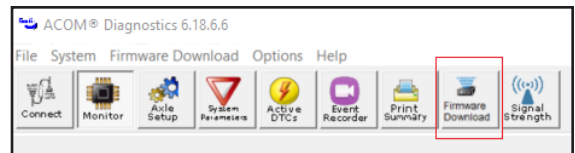

Figure 4 – Firmware Download
2. Once connected to the TPMS ECU, select the *Firmware Download* icon in the toolbar. See *Figure 4*.